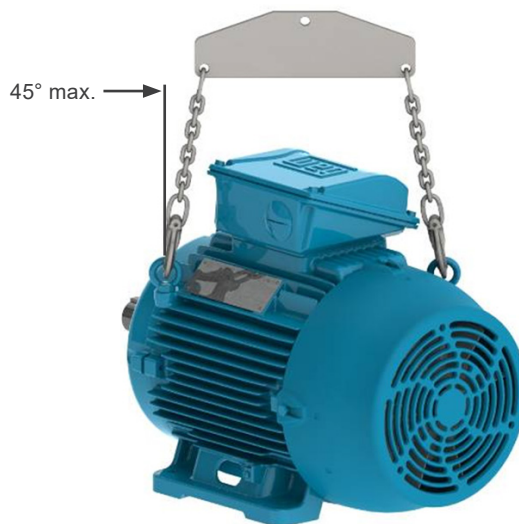

Figure 4.4: Maximum resultant angle for motors with two or more lifting eyebolts
- For motors with vertical lifting eyebolts, as shown in Figure 4.4 on page 21, the maximum allowed lifting angle should not exceed 45° in relation to the vertical axis. We recommend using a spreader beam for maintaining the lifting elements (chain or rope) in the vertical position and thus preventing damage to the motor surface.